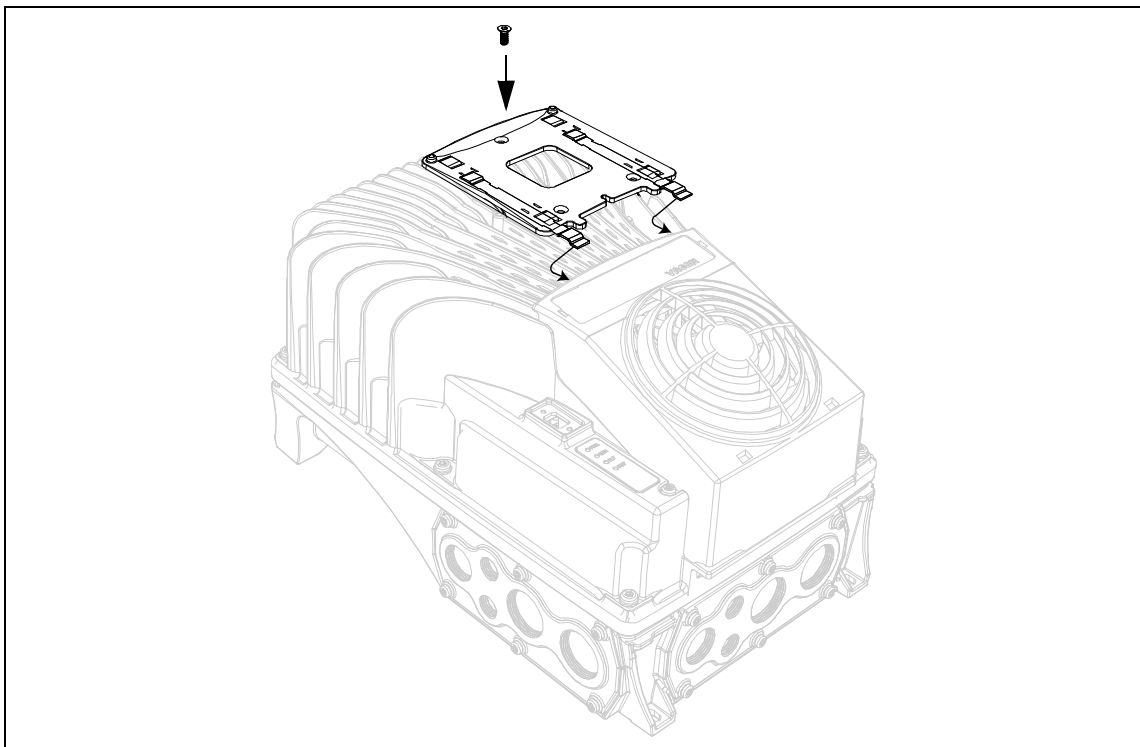

Figure 54. Installation of the keypad holder on the powerhead.
- Install the keypad holder with a screw as shown in the Figure 54. The metal sheets of the keypad holder have to be mounted under the fan holder as shown in the following figures.